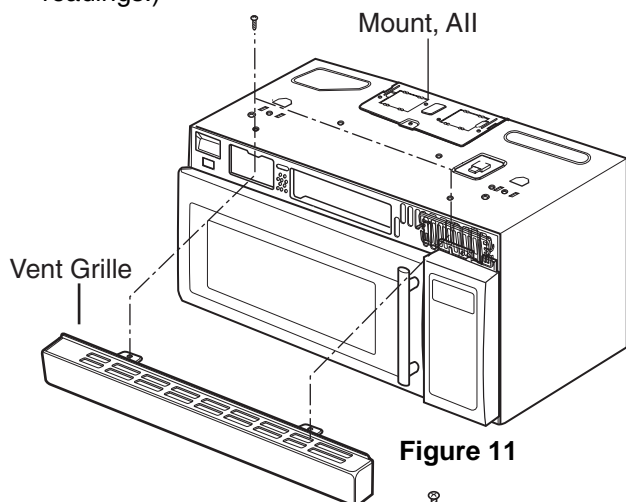

Figure 11
(Figures 11 Through 12)
- (1) Remove the vent grille by loosening two screws. (Figure 11)
- (2) Remove the outcase. See page 7-6.
- (3) Remove four tap tite screws securing the magnetron to the wave guide.
- (4) Disconnect the leadwire.
- (5) Remove the magnetron VERY CAREFULLY.